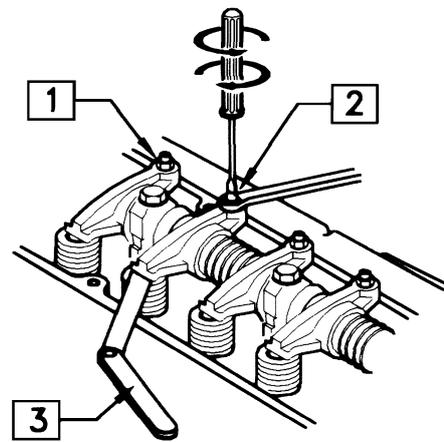

Fig. 7.2
With the rocking cover removed, loosen the rocker nut(1) and while the adjustment screw (2) is rotated, adjust the valve play with a gauge (3) (Fig. 7.2).